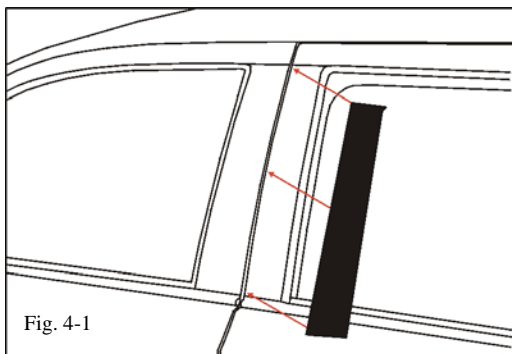

Fig. 4-1
- (a) Repeat steps 3(a) – 3(g) on rear door pillar. (Fig. 4-1)